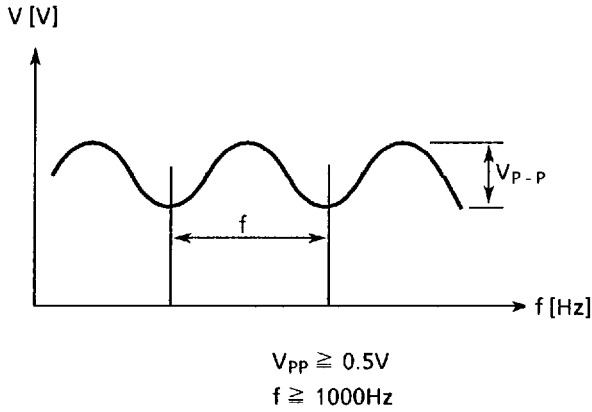

Figure 21
6.5 S-81240AG-RJ-X**6.6 S-81250HG, S-81250HG-RD-X****7. Measuring circuits (in case of the S-812 Series)****1. Input voltage - output voltage****2. Output current - output voltage****3. Line transient response****4. Current consumption****Figure 21**